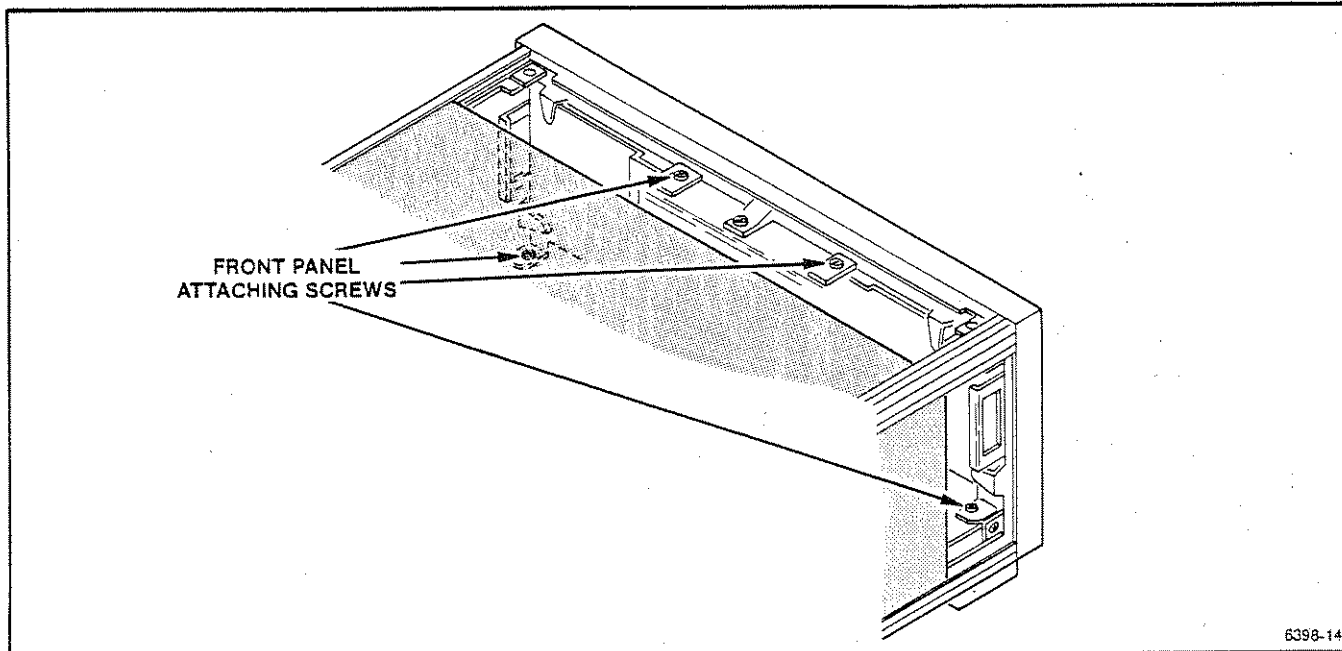

Fig. 3-5 Front panel removal
3. Remove the four (4) Front Panel attaching screws (Figure 3-5). There are two (2) about 6" in from each side at the top of the panel and one (1) at each bottom inside corner of the panel.